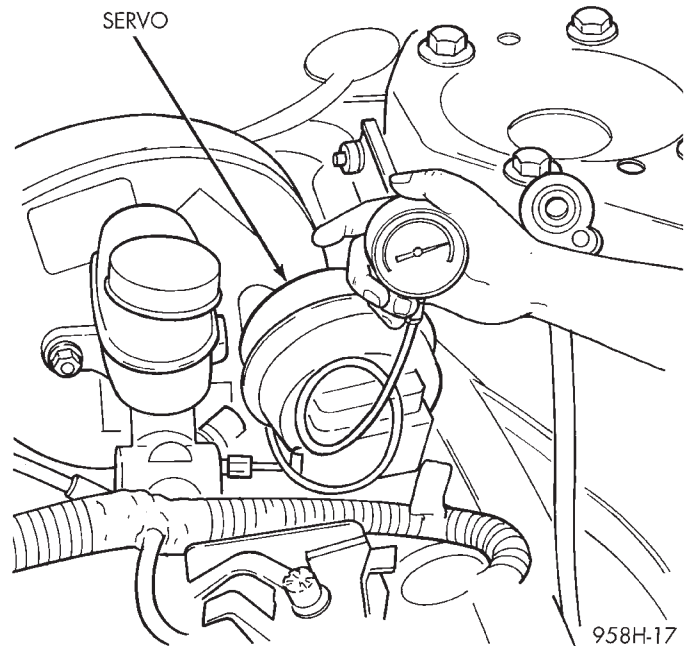

Fig. 7 Vacuum Gauge Test
(1) Disconnect vacuum hose at the servo and install a vacuum gauge in the hose (Fig. 7).
(2) Start engine and observe gauge at idle. Vacuum gauge should read at least ten inches of mercury. Shut off engine, the vacuum should continue to hold 10 inches of mercury.
(3) If vacuum does not meet this requirement, check and correct the following vacuum leaks in the vacuum lines, check valve, vacuum reservoir or poor engine performance.